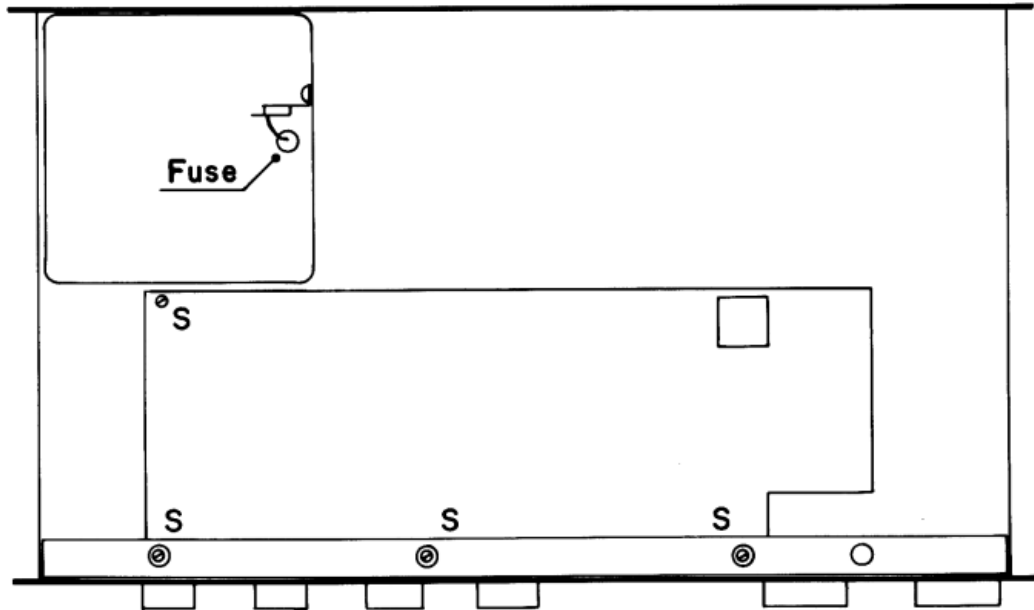

Fig. 6-3. Switchboard Mounting.
6.3 Switchboard and Jackboard. Remove the four 4-40 machine screws marked S in Fig. 6-3 and lift up the rear of the board (toward the power transformer). Avoid flexing flat cables any more than is necessary. Nearly all parts are accessible once the board has been lifted. When reinserting this board, pull all of the toggle switches up to allow the toggle levers to enter the front panel holes easily.
6.8 Power Supply and Power Switch. Except for the power switch, all line voltage wiring is contained inside the steel power supply bracket. After the rear panel is taken off, removal of five more 4-40 × 1/4 in. machine screws (four in the main circuit board, one in the switchboard, marked S in Fig. 6-3) will release the bracket.